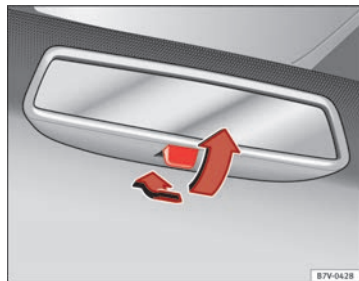

Fig. 72 Manual anti-dazzle function for rear vision mirror
- Pull the lever to the back to select the anti-dazzle function ⇒ Fig. 72.